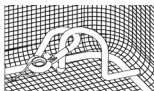

Figure 2
**Note:** Prior to using G1 Cleaning and Sterilization Basket for first time, attach connector sleeve to basket by clipping onto internal support structure (Figure 2). The connector sleeve should remain with basket for future use.